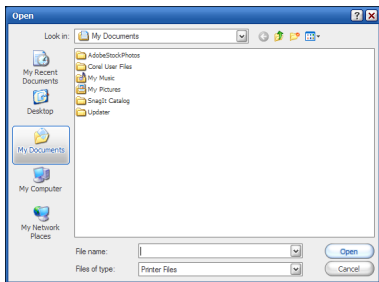

Figure 2—Open
2. In the MediaAnalyzer window, click **ICC Import** in the Left Configuration section to display the Open dialog (see Figure 2).